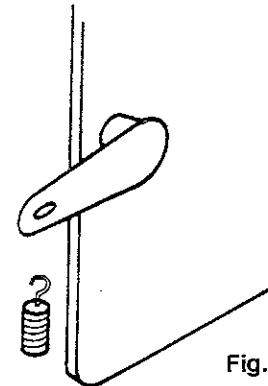

Fig. 13
2. Place the metal hook of the wooden handle through the hole in the end of the cast iron door handle. (Fig. 13).